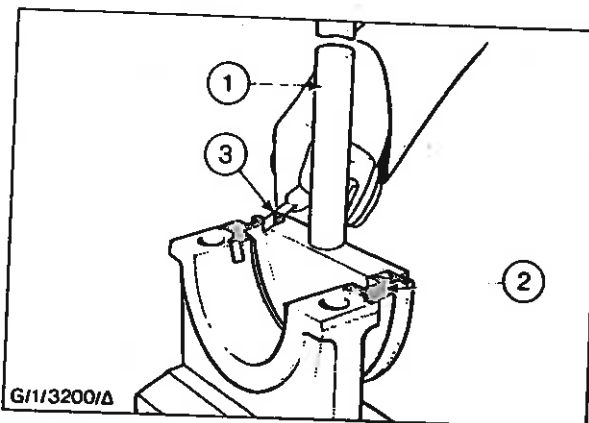

Fig. 47 - Fitting Crankshaft Rear Oil Seal - (Main Bearing Cap Shown)
13. Install the graphited fibre rope type seal into the groove in the rear main bearing cap and the cylinder block. DO NOT use any sealer or adhesive. Tap the seal fully home into the respective grooves using Seal Installer 21-506 as shown in Fig. 47.